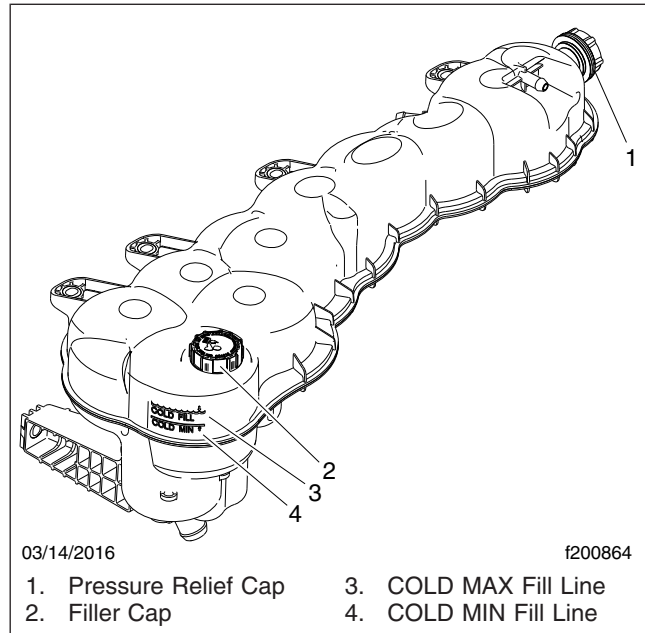

Fig. 25.6, Coolant Surge Tank
5. Check the engine coolant level in the radiator surge tank. See Fig. 25.6.